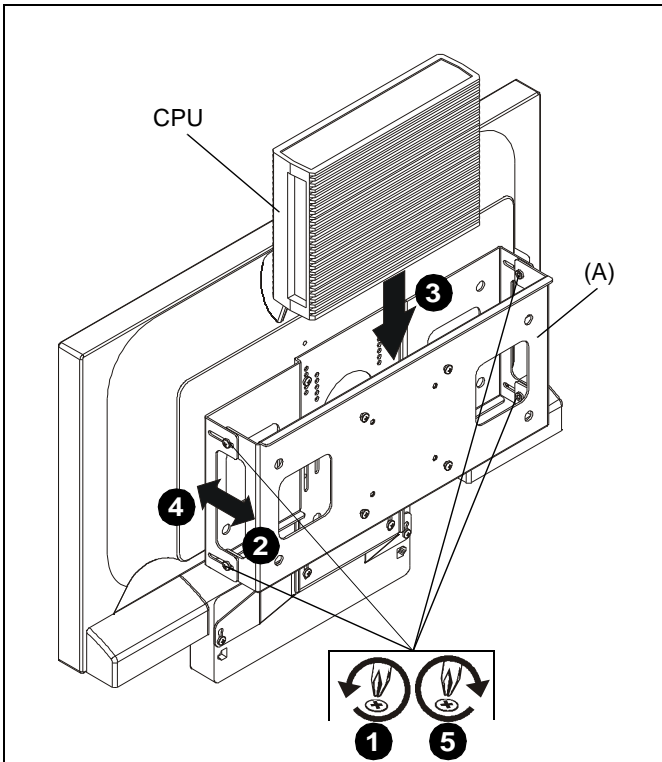

Figure 10
1. Loosen four screws holding two brackets together. (See Figure 10)
2. Pull brackets apart until there is enough room to fit CPU into cavity. (See Figure 10)
3. Insert CPU unit into interface bracket (A) cavity from above. (See Figure 10)
4. Push brackets together until CPU fits securely in cavity. (See Figure 10)
5. Tighten four screws holding two main brackets to secure mount in final position. (See Figure 10)